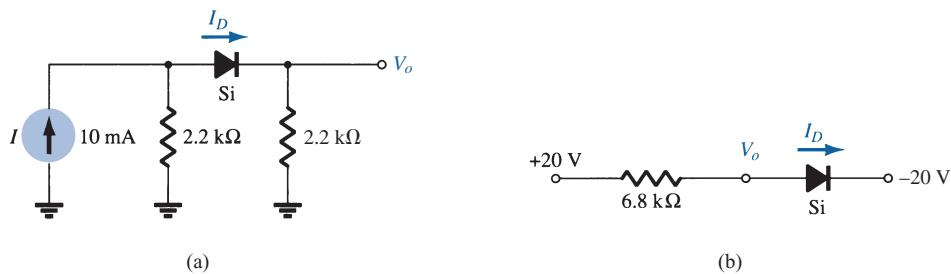

FIG. 158
- *8. Determine V_o and I_D for the networks of Fig. 158.